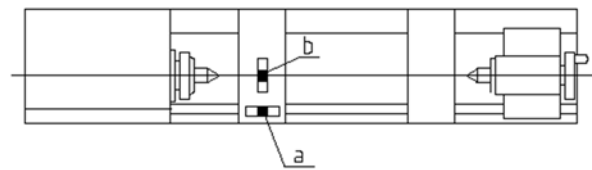

Figure 5 – Leveling
9. Use a machinist's precision level on the bed ways both front to back and side to side, as shown in Figure 5. Take the reading in one direction every ten inches. Make sure the ways are clean and free of any debris before placing a level upon them.
10. Deviation over bed length (see Figure 5):